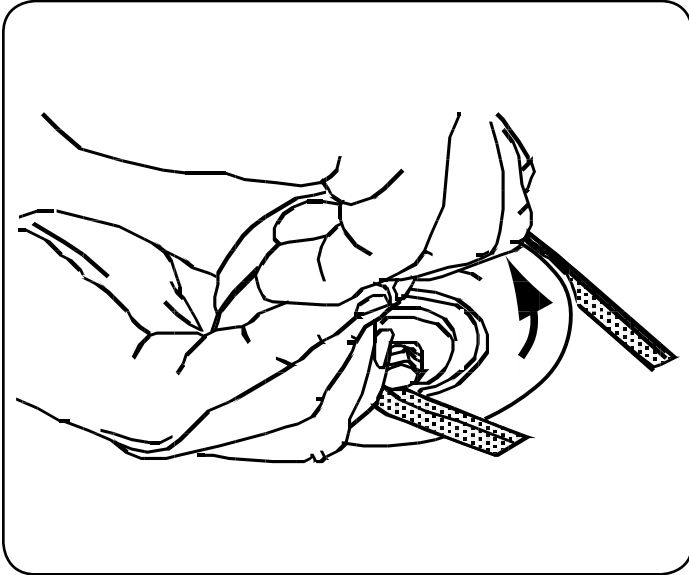

Figure 40
8. Pull the right side of the belt and place the narrow V side of the belt into the PTO pulley. See Figure 40.